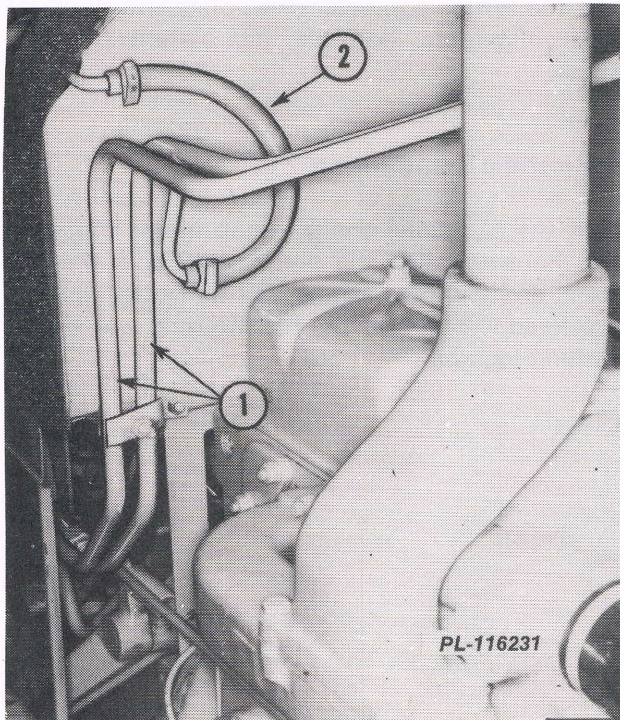

Fig. 7
14. Disconnect the two oil cooler tubes. See Fig. 7.
15. Disconnect the brake keep-full tube from the oil cooler return tube, if necessary. See Fig. 7.